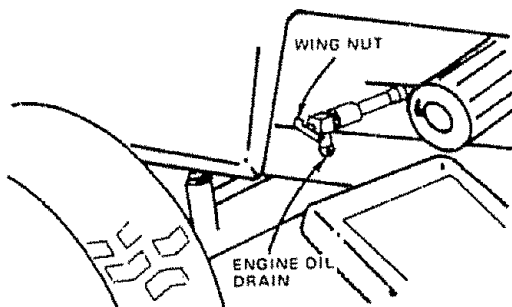

FIGURE 18
- b. Loosen oil drain wing nut (Fig. 18) and remove dipstick.